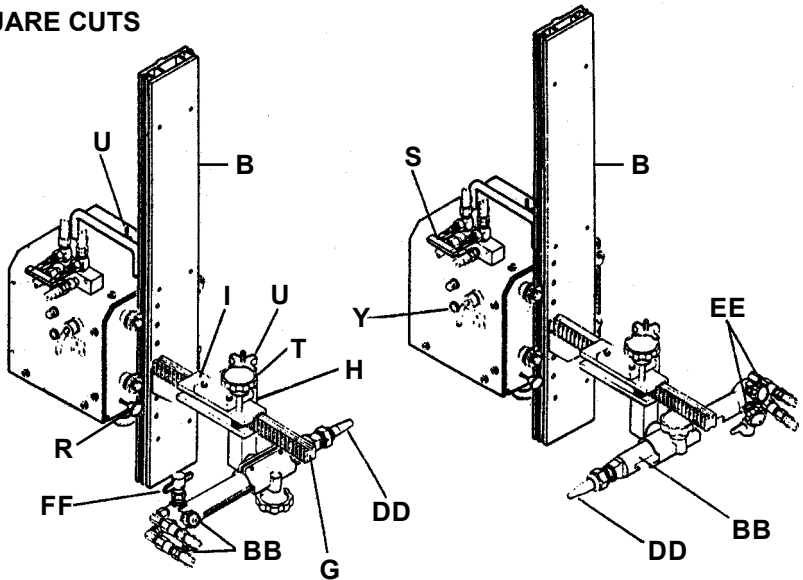

Figure 3
3. In case **Torchholder (H)** was bumped during shipment, check to see that it is parallel to the rail as follows (Ref. Fig. 3):
- A. Lock **Rackholder (I)** on **Rack (G)** [or torchholder assembly].
- B. Swing **Torch (BB)** to a horizontal position and measure distance from **Torch Tip (DD)** to edge of **Rack (N)**.
- C. Swing **Torch (BB)** 180° and measure distance from **Torch Tip (DD)** to edge of **Rack (N)** on other side.
- D. These two measurements must be equal. If they are not, loosen **Socket Head Cap Screw (T)** and nudge **Torchholder (H)** around the vertical axis, and retighten **Clamp Screw (U)** when the measured distances (repeating Steps 2 and 3) are equal.